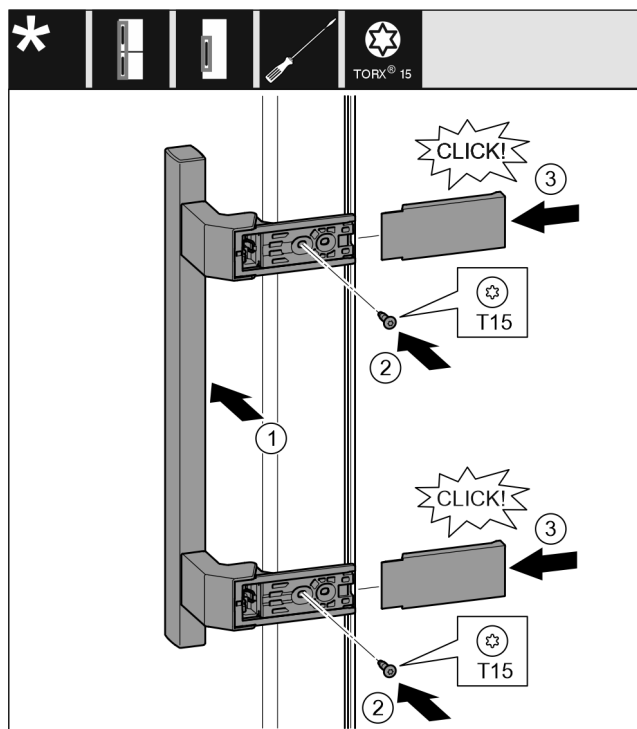

Fig. 18
- ▶ Position the handle on the opposite side. Fig. 18 (1)
- ▶ Tighten the screws using the T15 screwdriver. Fig. 18 (2)
- ▶ Position the covers on the side and push them on. Fig. 18 (3)